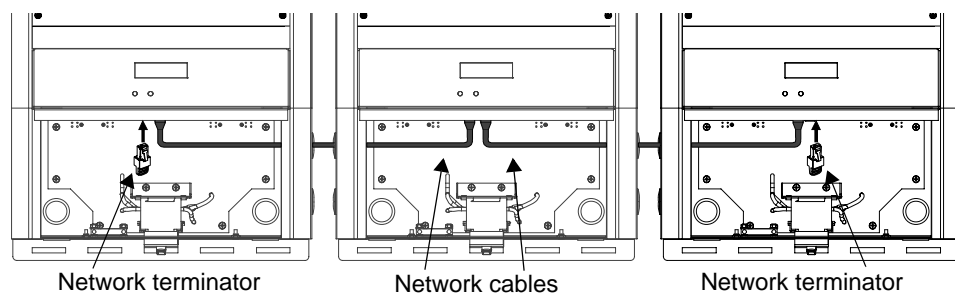

Figure 3-11 Daisy Chain Layout
Network connections for multiple inverters are laid out in a “daisy chain” pattern, with each device on the network linked by separate lengths of cable, as shown in Figure 3-11.
6. Insert network terminators into the empty RJ-45 ports in the inverters at the beginning and end of the network. There should be no empty RJ-45 ports in any of the inverters. See Figure 3-11.